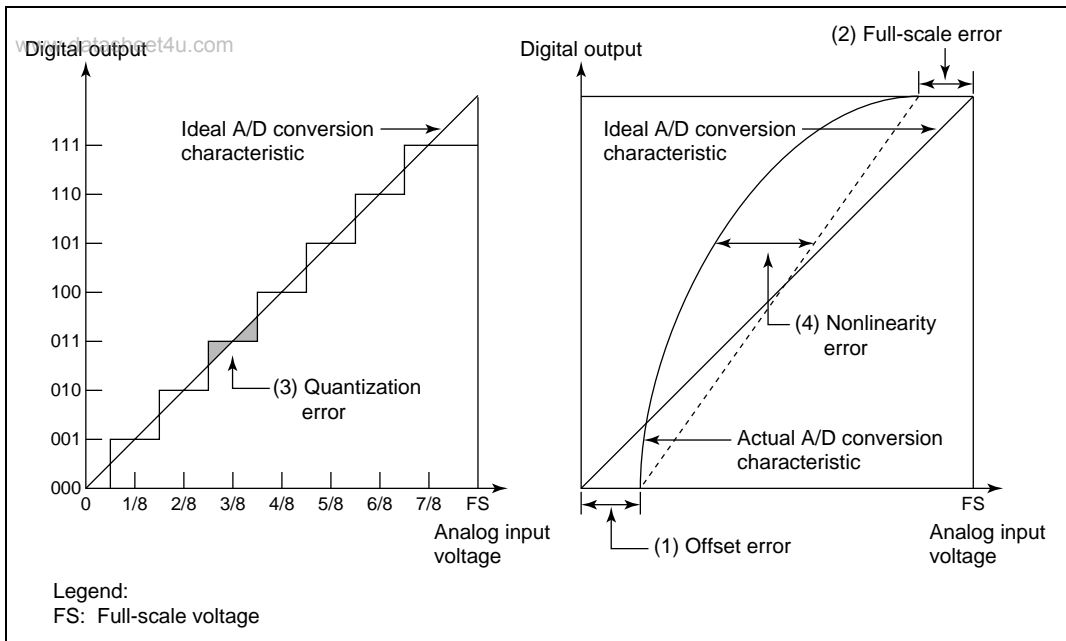

Figure 15.7 A/D Conversion Accuracy Definitions
The above four kinds of error are described below with reference to figure 15.7. For the sake of clarity, this figure shows 3-bit A/D conversion rather than 10-bit A/D conversion. Offset error (see figure 15.7 (1)) is the deviation between the actual A/D conversion characteristic and the ideal A/D conversion characteristic when the digital output value changes from the minimum value (zero voltage) of 0000000000 (000 in the figure) to 0000000001 (001 in the figure). Full-scale error (see figure 15.7 (2)) is the deviation between the actual A/D conversion characteristic and the ideal A/D conversion characteristic when the digital output value changes from 1111111110 (110 in the figure) to the maximum value (full-scale voltage) of 1111111111 (111 in the figure). Quantization error is the deviation inherent in the A/D converter, given by 1/2 LSB (see figure 15.7 (3)). Nonlinearity error is the deviation between the actual A/D conversion characteristic and the ideal A/D conversion characteristic from zero voltage to full-scale voltage (see figure 15.7 (4)). This does not include offset error, full-scale error, and quantization error.